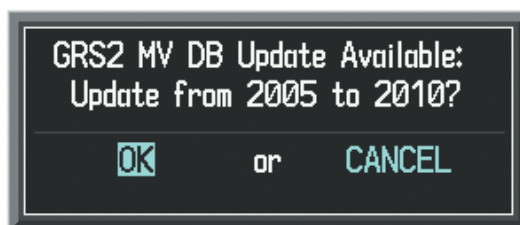

Figure B-14 GRS2 Magnetic Field Variation Database Update Prompt
- 3) The system displays a prompt for the next GRS upload is displayed, as seen in Figure B-14.